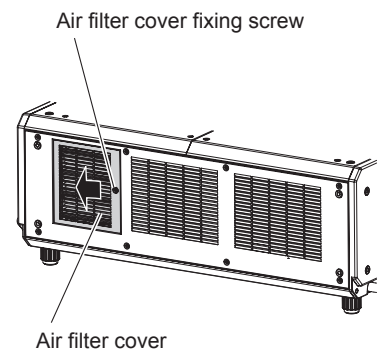

Fig. 3
2) Slide the air filter cover toward the direction of the arrow to close (Fig. 3), and tighten the air filter cover fixing screw using a Phillips screwdriver.